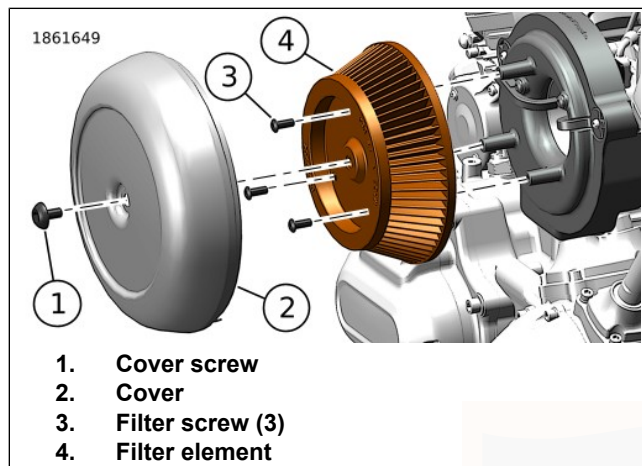

Figure 70. Air Cleaner: Round High Flow
1. See Figure 70. Remove air cleaner cover.
- a. Remove screw (1).
- b. Remove cover (2).
- a. Remove screws (3).
- b. Remove filter element (4).
1. See Figure 70. Install filter element.
- a. Apply LOCTITE 243 MEDIUM STRENGTH THREADLOCKER AND SEALANT (BLUE) (99642-97) to threads of screw (3).
- b. Install filter element (4).
- c. Install screws (3). Tighten. 6.2–6.8 N·m (55–60 **in-lbs**)
- a. Apply LOCTITE 243 MEDIUM STRENGTH THREADLOCKER AND SEALANT (BLUE) (99642-97) to threads of screw (1).
- b. Install cover (2).
- c. Install screw (1). Tighten. 5.6–7.3 N·m (50–65 **in-lbs**)